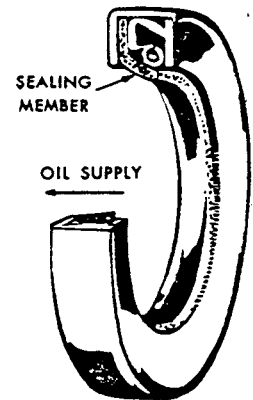

FIG. 4
**REPLACEMENT OF OIL SEALS**—Before new seals are positioned make certain there are no burrs or rough spots on the shaft. Push the seal through carefully, with the sealing members toward the oil supply. (See Fig. 4.)